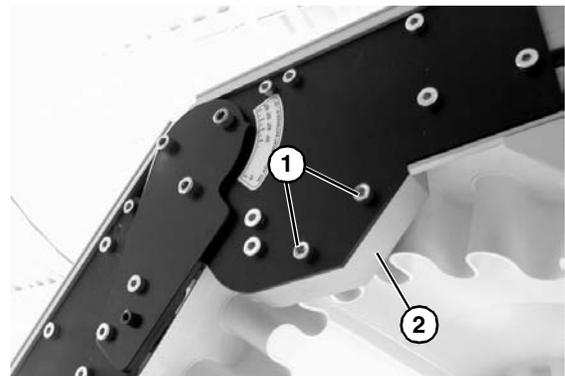

Figure 18
4. If equipped with an upper knuckle, remove screws (Figure 18, item 1) and remove guard (Figure 18, item 2) on both sides of knuckle.